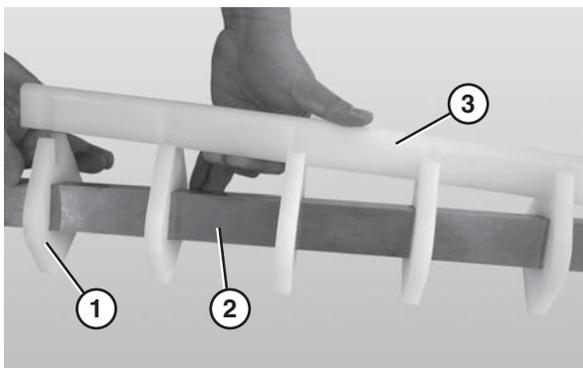

Figure 67
1. Slide the nose bar pucks (**Figure 67, item 1**) onto the nose bar drive post (**Figure 67, item 2**).
2. Attach the nose bar wear strip (**Figure 67, item 3**).